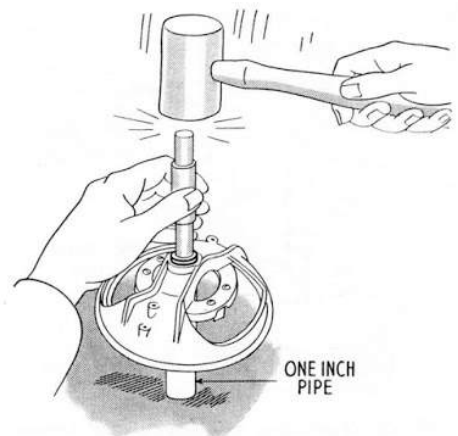

FIG. 59—Driving out upper solid bronze sleeve bearing
2. On Robbins & Myers motor, drive the old upper bearing out from the inside. On Hoover motor, drive the bearing inward from the top of the casting. Use drift pin, Tool No. 64. See Figure 59.